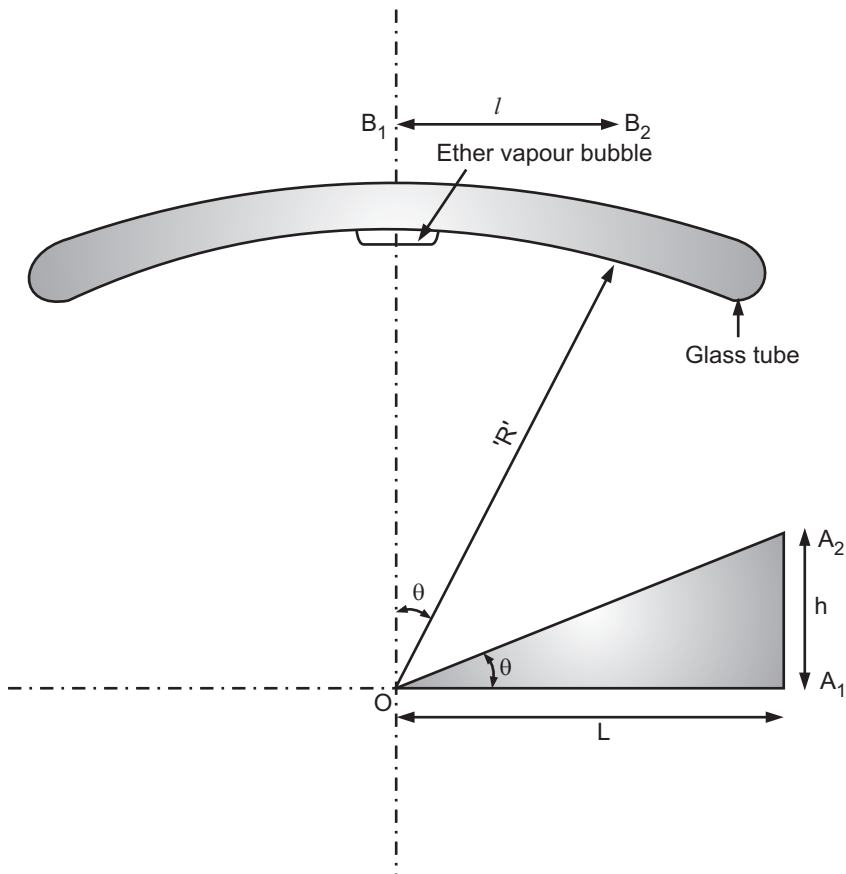

Fig. 4.5: Working principle of spirit level
- Refer Fig. 4.5, where the base of spirit level instrument is resting on a horizontal and flat surface OA_1 , the bubble occupies the central position denoted by B_1 .